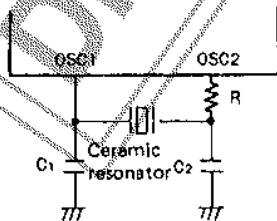

Fig. 2 Ceramic Resonator Oscillation Circuit
| Ceramic Resonator Oscillation | I _{DDOP} (1) | Fig. 2, 4MHz | Operating mode, VDD Output Nch Tr OFF, | | 4.0 | 10 | mA |
| Oscillation Frequency | f _{CFOSC} | Fig. 2, fo=4MHz (*6) | OSC1, OSC2 | 3840 | 4000 | 4160 | kHz |